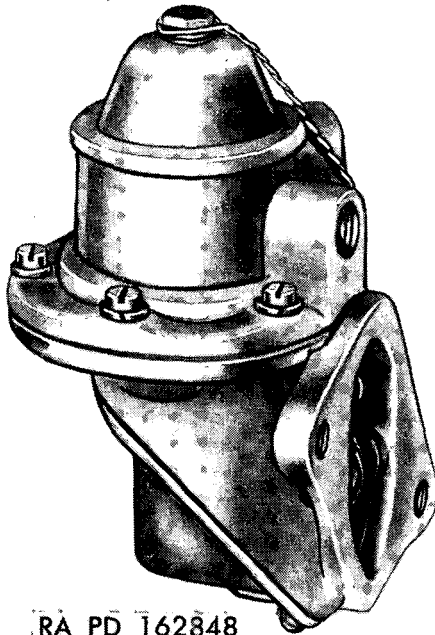
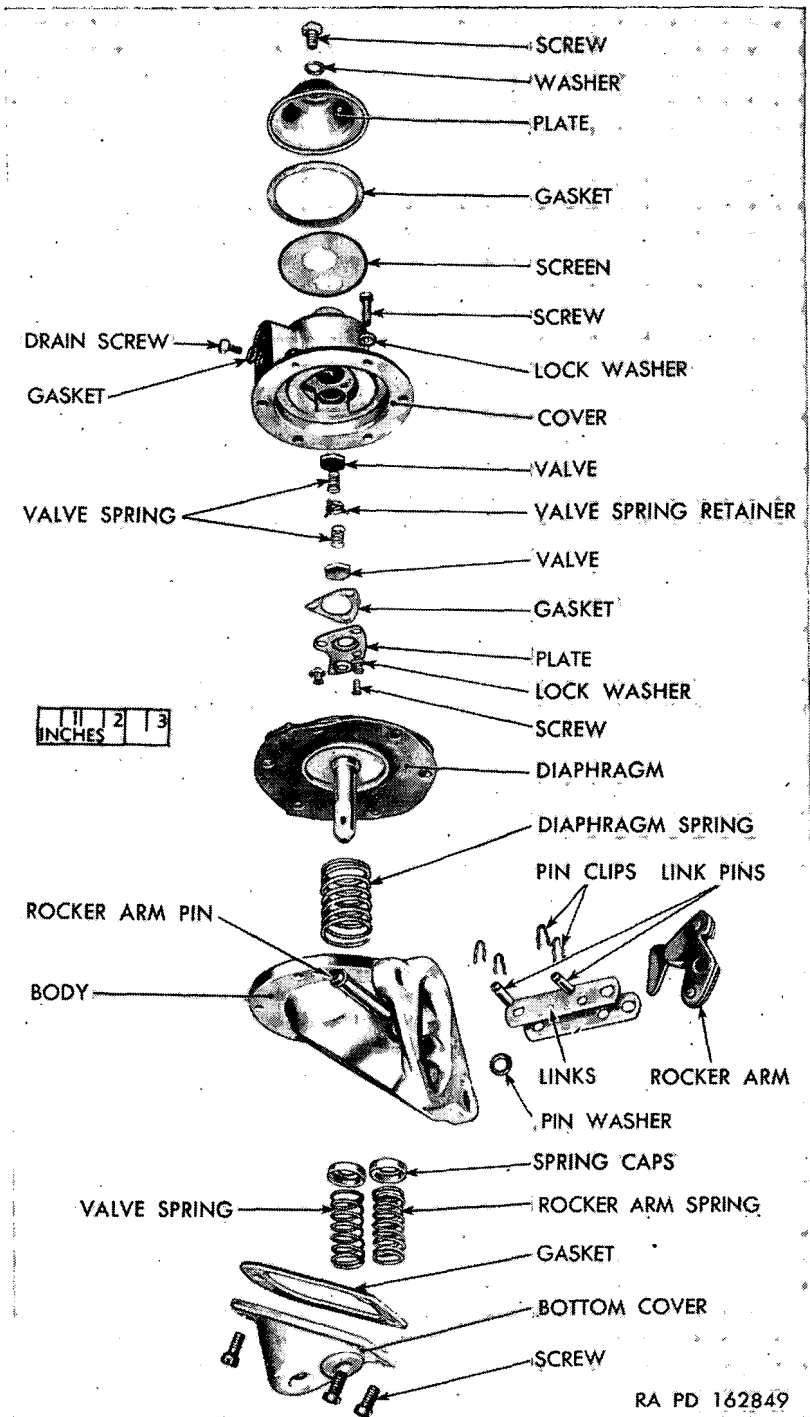

Figure 22. Fuel pump, series AC.
Figure 23. Fuel pump—disassembled (typical series AC construction).
- (1) Mark edges of top cover and body (fig. 23) of series AC fuel pump (fig. 22) with a file. Mark at heat shield stud, if used.
a. Assemble Body (fig. 23).
- (1) Assemble upper spring (if used) over diaphragm pull rod and push pull rod through hole in pump body. Assemble sheared ends of two links to flat of pull rod (sheared link corner toward top of pull rod) and retain with one link pin and two clips. Install link pin through center hole of links and retain with two clips.
- (2) Install rocker arm between links with hooked end over center link pin. Assembly is correct when center link pin is below center line of links. Align rocker arm pin hole with hole in body and drive in rocker arm pin. Install washer